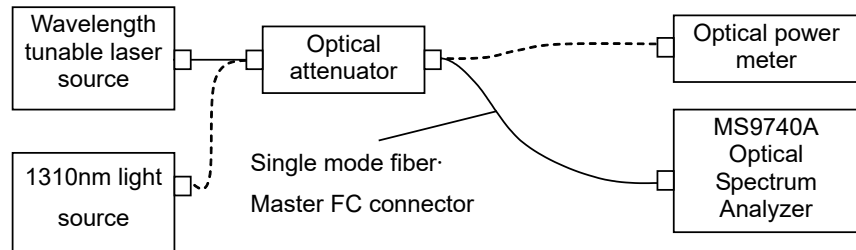

**Figure 7.2.1-1 Wavelength Accuracy Test Setup**
1. Setup and connect as shown in Figure 7.2.1-1.